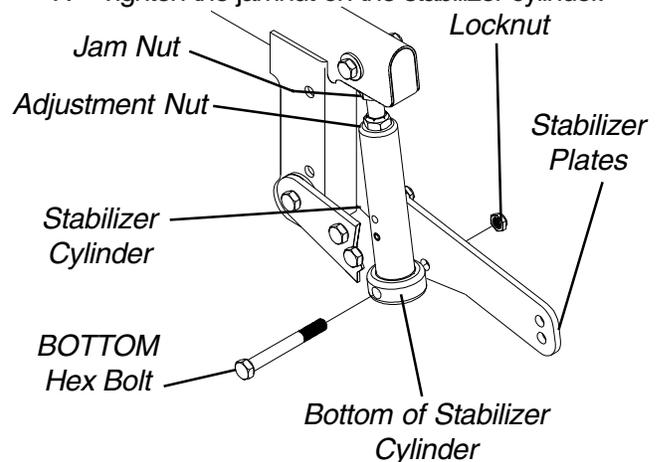

FIGURE 14 - ADJUSTING TYPE B STABILIZER ASSEMBLY FOR USER PREFERENCE
### Adjusting Type B Stabilizer Assembly for User Preference (FIGURE 14)
**Replacing Stabilizer Cylinder Springs for Type A Stabilizer Assemblies (FIGURE 14)**